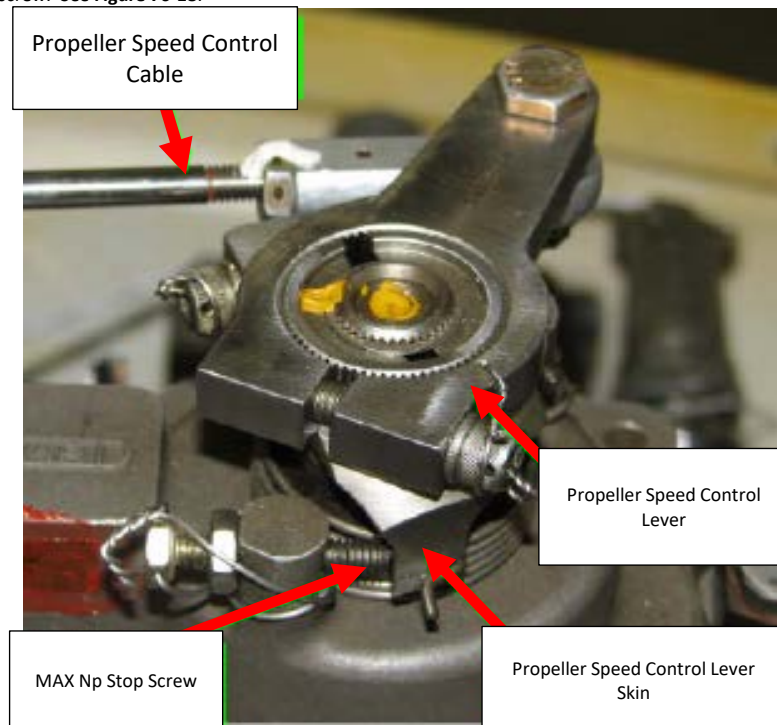

Figure 76-18 - Propeller Speed Control Lever
- B. Move the propeller speed control lever to its maximum forward position, so the propeller speed control lever skirt is firmly against the max Np stop screw. See **Figure 76-18**.